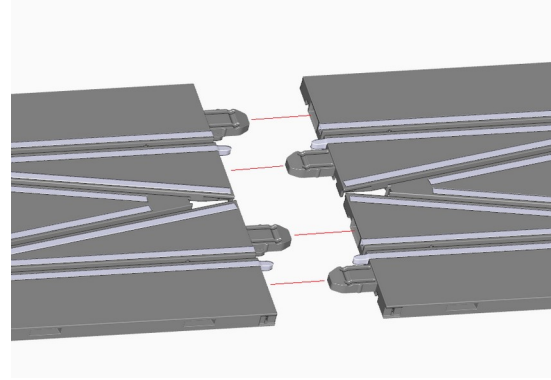

Figure 3
1. Join the two halves of the LC (*Figure 3*).